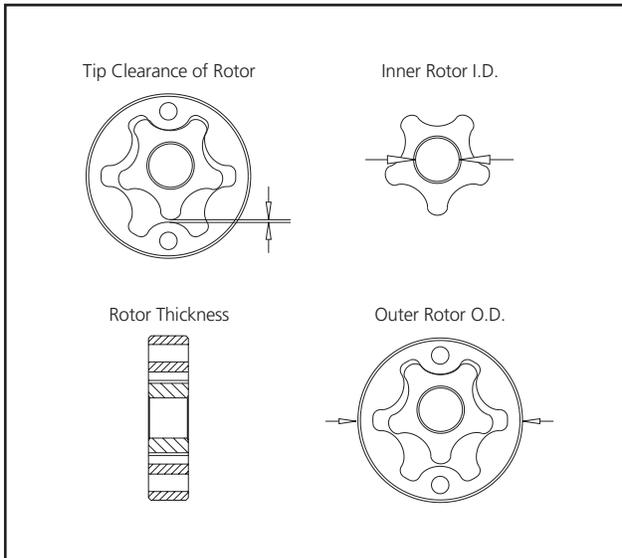

Figure 12.4 — Inner and Outer Rotor Check Points
1. Inspect the inner and outer rotors for damage and wear (Figure 12.4).